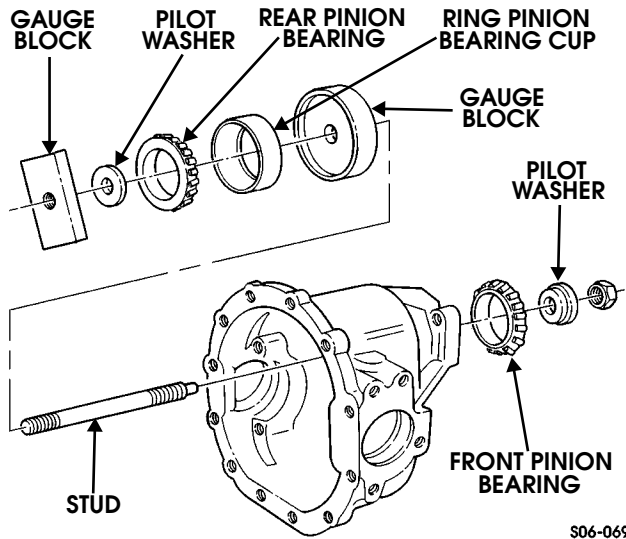

Figure 9-85: Pinion Front Bearing and Depth Tool Removal
18. Remove nut, pilot washer, front pinion bearing, and stud assembly from housing (Figure 9-85).